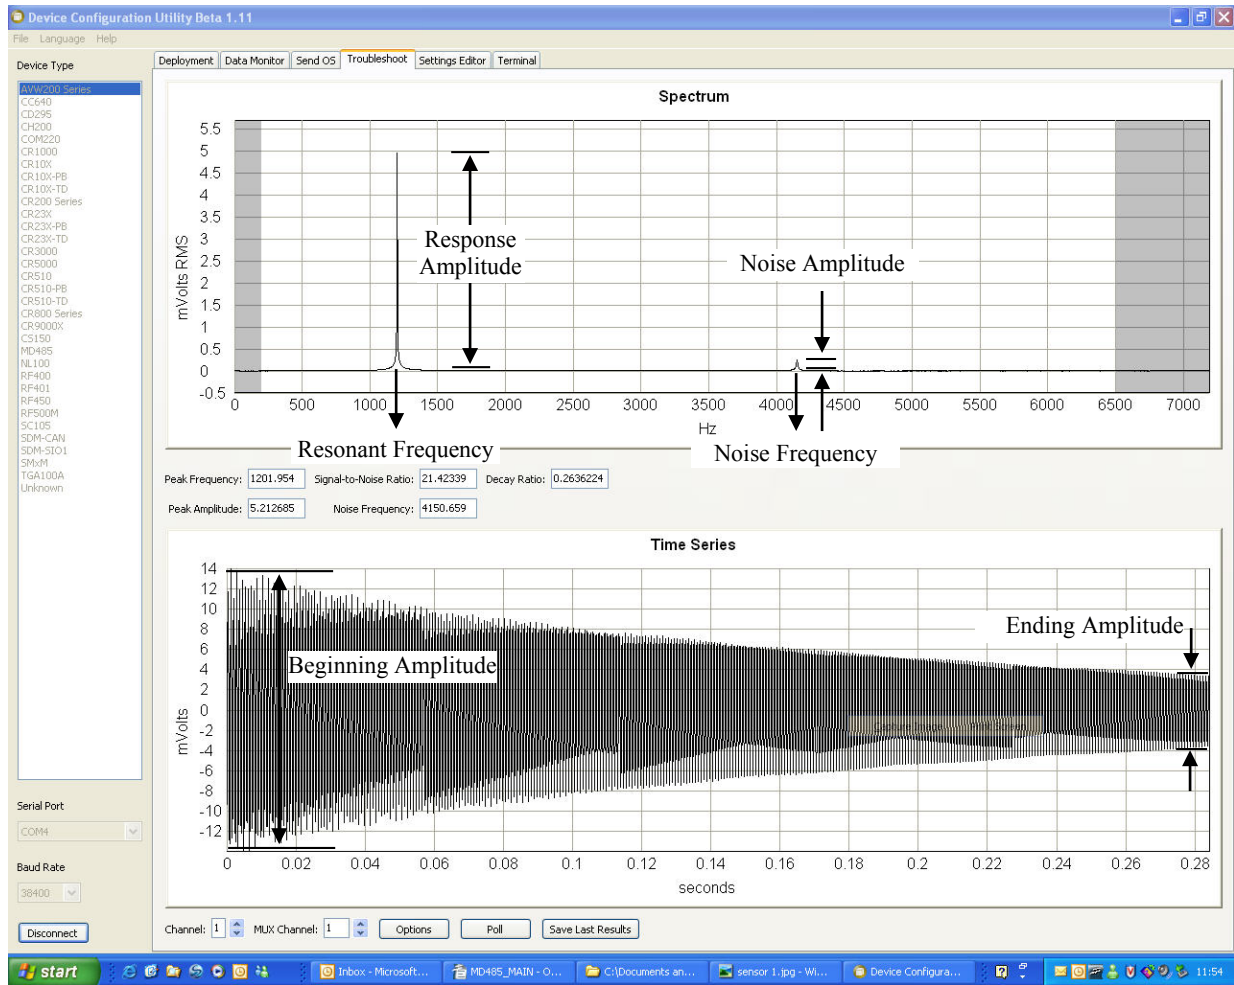

FIGURE 5-9. Graphs for Evaluating Spectral Analysis of a Sensor
5. Once the appropriate settings have been specified, click OK on the Options window and click the Poll tab at the bottom of the Troubleshoot window. The results of the Poll will be displayed on a Spectrum graph and a Time Series graph (see FIGURE 5-9).
In FIGURE 5-9, the bottom graph shows the raw time series data recorded from a vibrating wire sensor after the sensor has been excited with the frequency swept voltage signal and the top graph shows the spectrum after the AVW200 has applied the FFT. In addition to the wire's resonant frequency, the spectrum shows the response amplitude, noise amplitude, and noise frequency. The AVW200 computes the signal-to-noise ratio diagnostic by dividing the response amplitude by the noise amplitude. The AVW200 computes the decay ratio diagnostic from the time-series ending amplitude divided by the beginning amplitude.